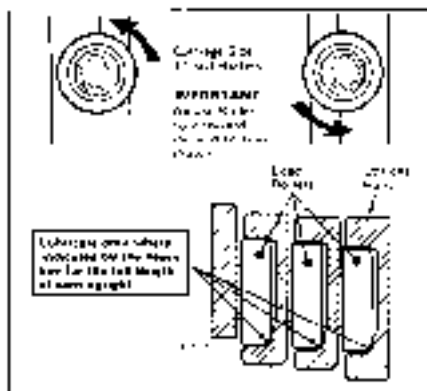

Figure 34. Rail Lubrication and Carriage Side Thrust Rollers.
*Lubricate the inner upright rails with chassis lube or Kendall SR-12X. See Figure 34.